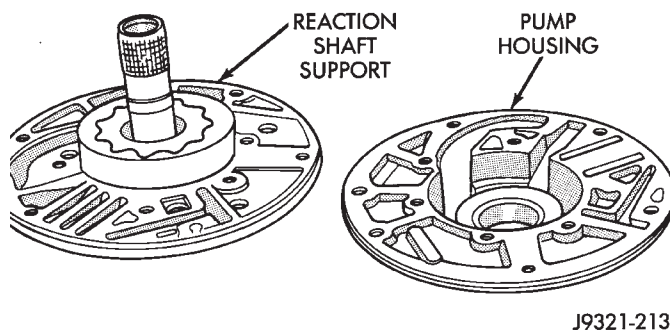

Fig. 43 Separating Pump Housing From Reaction Shaft Support
(4) Remove pump-to-support bolts and separate support from pump housing (Fig. 43).